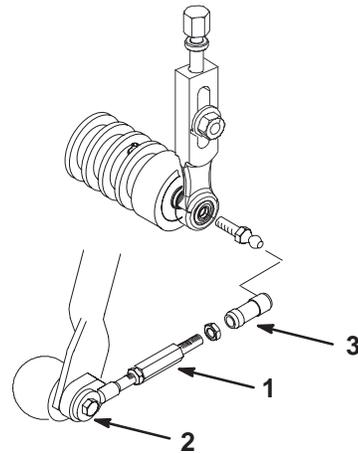

Figure 5
- Loosen jam nuts and remove existing pull arm extension from pull arms and ball joint receivers on all carrier frames (Fig. 5).